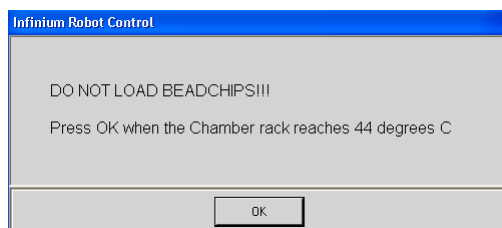

Figure 167 Adjusting Chamber Rack to 44°C Message
2. When the prompt appears (Figure 167), wait for the Chamber Rack to reach 44°C. Do not load the BeadChips or click **OK** yet.
3. Once the temperature probe registers 44°C, click **OK** (Figure 167).